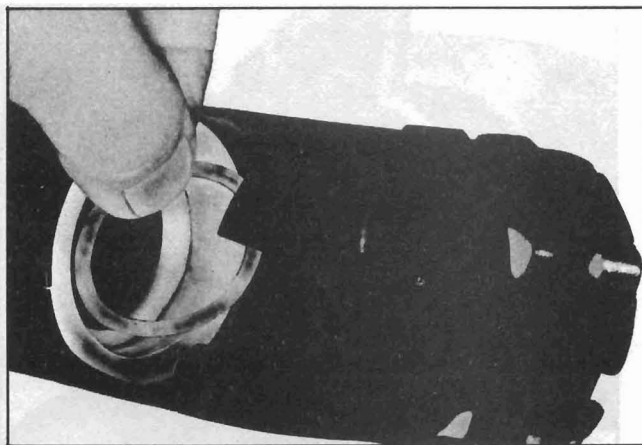

Fig. 9-28 Removing or Installing Wave Washer and Lower Shift Bowl Bearing
8. Remove wave washer and lower shift bowl bearing from top of jacket (Fig. 9-28).
7. Install lower bowl bearing in jacket and place wave washer in bowl bearing (Fig. 9-28).